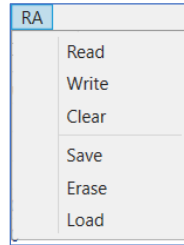

Figure 126: RA Cable Compensation, RA Drop Down Menu
3. From the RA drop down menu, shown in Figure 126, select Write.